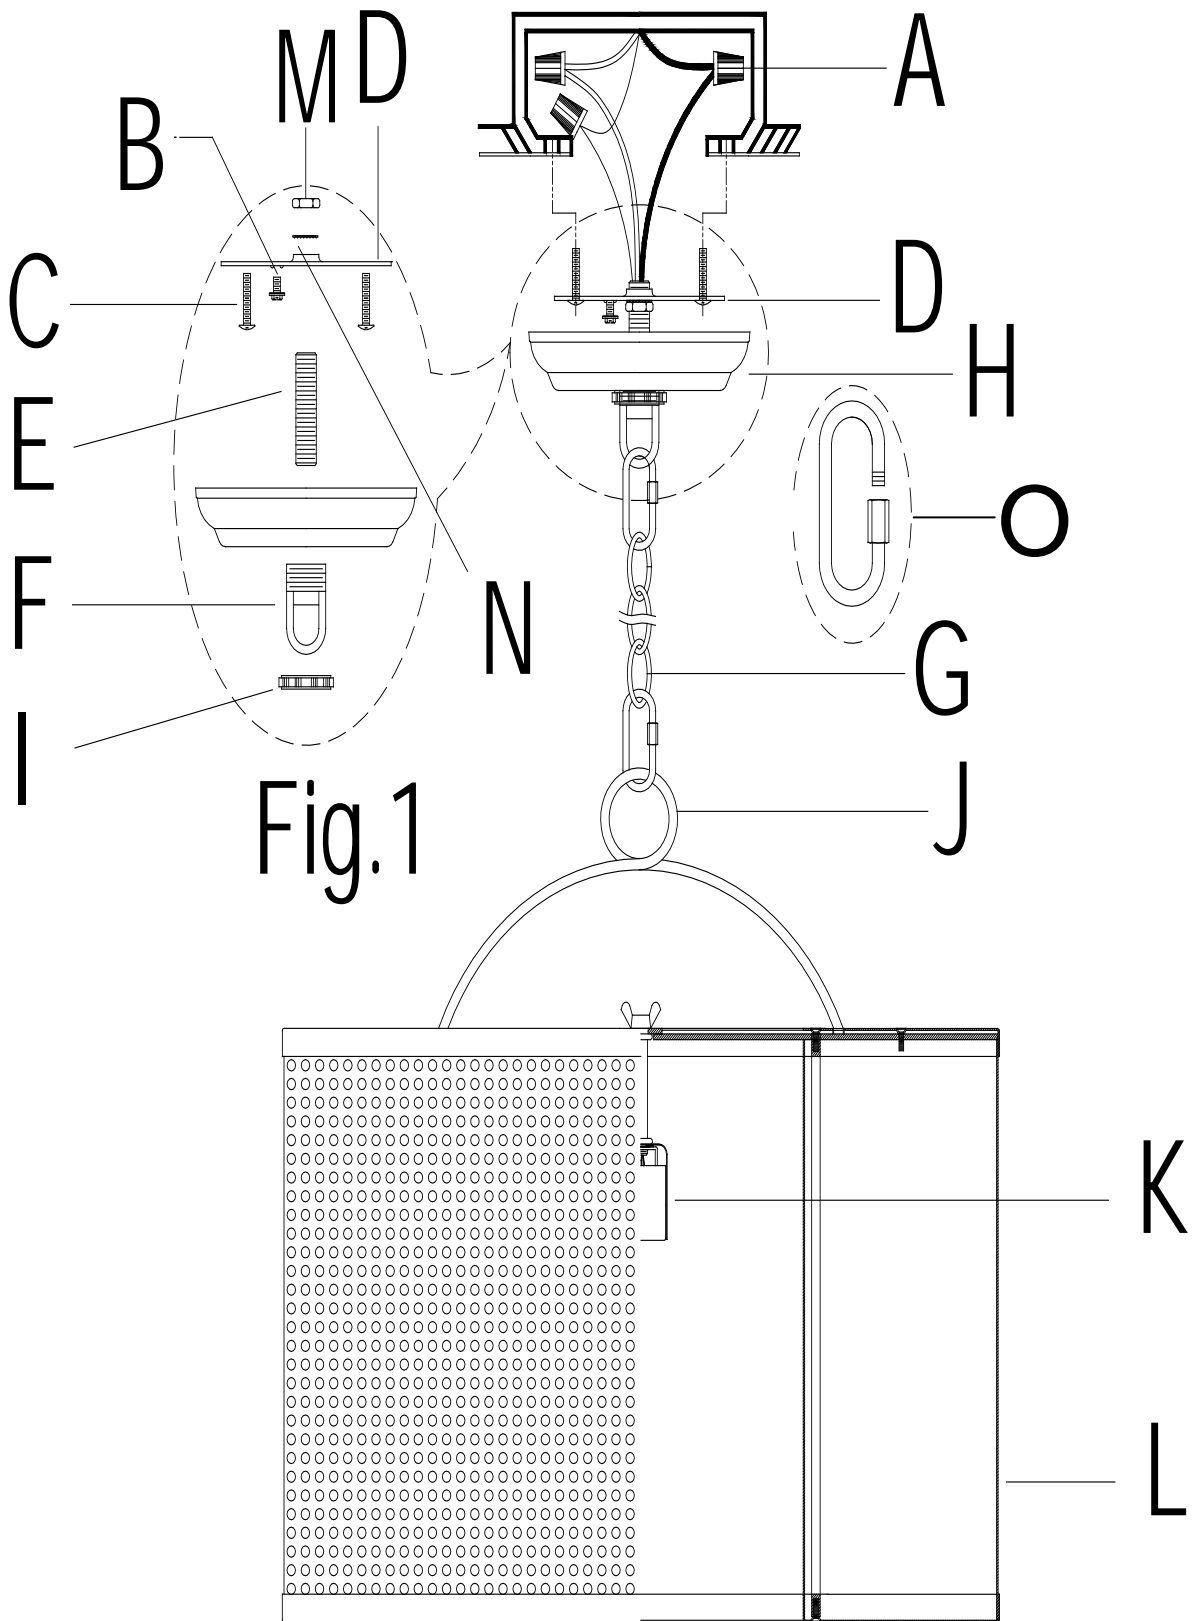

Fig. 1
4. If not already separated, remove the Canopy Nut (I) and the Canopy (H) from the links of the Chain (G) and set them aside.
5. If the parts are not already preassembled, attach the Short Threaded Tube (E) into the threaded bore of the Hanging Loop (F) and rotate the Short Threaded Tube (E) clockwise until it is tightly engaged within the Hanging Loop (F). If the Short Threaded Tube (E) is not yet secured to the Mounting Plate (D), do so now so that a portion of the Short Threaded Tube (E) extends upward beyond the Mounting Plate (D).
6. Position the Lock Washer (N) first and then the Hex Nut (M) onto the extended upper portion of the Short Threaded Tube (E). Make sure the length of the Short Threaded Tube (E) is longer on the bottom end, as shown in Fig. 1. Tighten the Hex Nut (M) until tight using a hex wrench or a pair of pliers so that the Hanging Loop (F) is now firmly secured to the middle of the Mounting Plate (D).
7. Unscrew the Closable Link Screw Cap from the lower Closable Link with Screw Cap (O), and insert the bottom loop of Chain (G) and Fixture Loop (J) at the top of the Light Fixture (L) into the Closable Link with Screw Cap (O). Tighten the Closable Link Screw Cap as shown in Fig. 1.
8. Slip Canopy Nut (I) first and then Canopy (H) over the upper end of Chain (N) making sure the finished side of the Canopy (H) is facing downward towards the floor.
9. Unscrew the Closable Link Screw Cap from the upper Closable Link with Screw Cap (O), and insert the top loop of Chain (G) and Hanging Loop (F) into the Closable Link with Screw Cap (O). Tighten the Closable Link Screw Cap as shown in Fig. 1.
10. Lace the pendant's 3-wire power cord through alternating chain links from the pendant all the way up through the opening of the Canopy Nut (I) and the Canopy (H) to the Hanging Loop (F).
11. Feed the fixture wires through the bottom opening of Hanging Loop (F), and then through the hollow Short Threaded Tube (E).
12. If needed, (depending upon final fixture hanging position from the ceiling), cut off the extra power cord length on the 3 wire cord cable. Make sure when cutting the power cord to cut the cord so that it is at least 6 inches (152.4 mm) long within the outlet junction box (J-box). Prepare the cut power cord wires using the following steps. Carefully cut away about 3 inches of the outer protective sheath insulation of the three-wire cord cable to expose the three individually insulated wires. Use wire strippers to prepare the ends of the three wires so that there is about 1/2 inch of exposed wire for the Plastic Wire Nut Connectors (A).
14. Attach the GROUND WIRE from the fixture to the GROUND JUNCTION BOX WIRE from the ceiling outlet junction box (J-box) (usually green insulation or bare wire). Fasten each together with a Plastic Wire Nut Connector (A) by twisting the connector in a clockwise direction and wrap the connection with electrical tape. Be sure that no wire strands are exposed. If your outlet junction box DOES NOT have a GROUND WIRE, be sure to insert the Green Ground Screw (B) into the Mounting Plate (D) marked as "GND", facing downward and wrap the fixture's bare ground wire around the Green Ground Screw (B). Tighten screw to clamp ground wire between ground screw head and Mounting Plate (D). **IT IS IMPERATIVE THAT THE JUNCTION BOX IN YOUR HOME BE PROPERLY GROUNDED!**
15. Connect the NEUTRAL FIXTURE WIRE to the NEUTRAL JUNCTION BOX WIRE (usually white insulation). Fasten each together with a Plastic Wire Nut Connector (A) by twisting the connector in a clockwise direction and wrap the connection with electrical tape. Be sure that no wire strands are exposed.
16. Connect the HOT FIXTURE WIRE to the HOT JUNCTION BOX WIRE (usually black insulation). Fasten each together with a Plastic Wire Nut Connector (A) by twisting the connector in a clockwise direction and wrap the connection with electrical tape. Be sure that no wire strands are exposed. **DO NOT REVERSE THE HOT AND NEUTRAL CONNECTIONS OR SAFETY WILL BE COMPROMISED.**
18. With the help of another person to hold the weight of the pendant, attach the Mounting Plate (D) to the ceiling outlet box using the J-box Mounting Screws (C). Align the slots of the Mounting Plate (D) with the two threaded holes located on the J-Box. Use a screwdriver to tighten each screw with a screwdriver until the Mounting Plate (D) is firmly secured to the J-Box. The pendant can now be supported by the J-box.
19. Slide the Canopy (H) upward along the Chain (G) so that the central opening of the Canopy (H) is received by the threaded portion of the Hanging Loop (F). A section of the threads on Hanging Loop (F) should be exposed below the Canopy (H). The Hanging Loop (F) should be hanging below the Canopy (H) and the upper rim of the Canopy (H) should be pressing gently against the ceiling surface, covering the junction box. While holding the Canopy (H) firmly in place, position the Canopy Nut (I) against the Hanging Loop (F) and rotate the nut clockwise to engage it with the threaded portion of the Hanging Loop (F) until secure. Do not over tighten this nut. Finger tight should be sufficient to hold the Canopy (H) firmly in place.